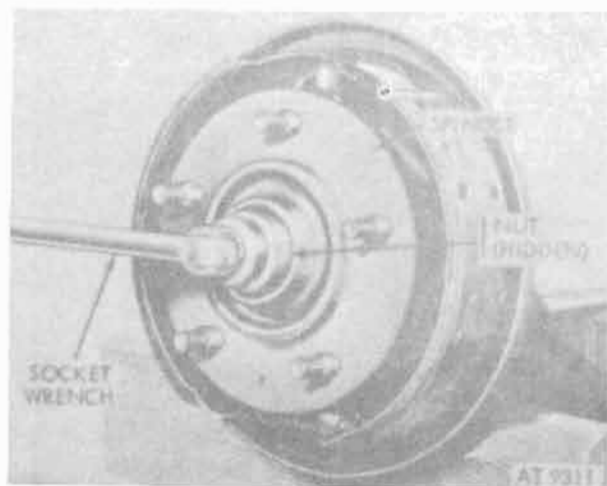

Figure 11-12. Rear wheel spindle and retaining nut.
a. Remove cotter pin and nut retaining spindle to flange shaft (fig. 11-12).